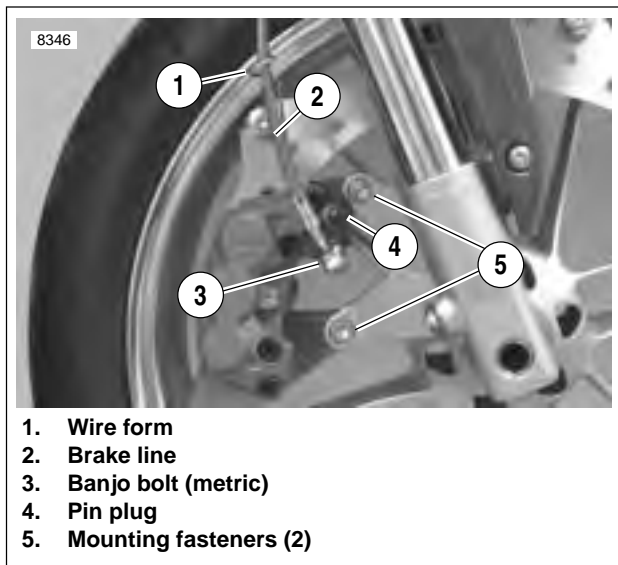

Figure 2-41. Front Brake Caliper Mounts
2. See Figure 2-41. Disconnect brake line at caliper. See 2.11 FRONT BRAKE LINE.
3. Remove caliper mounting fasteners (5).